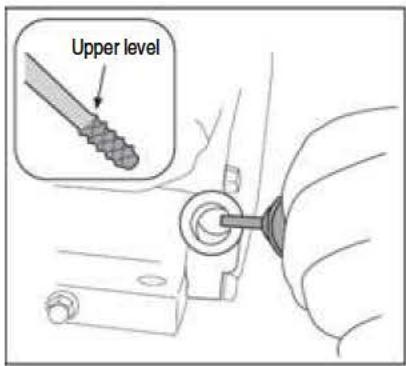

Figure 11
1. Remove the oil filler cap/dipstick. Wipe the dipstick clean. See figure 11.